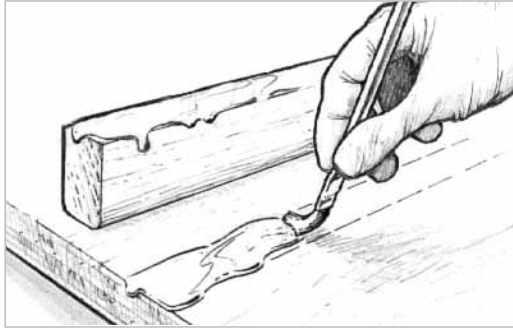

Figure 9-8 Wet out bonding surfaces with unthickened epoxy for maximum penetration and greater adhesion.
1. Wet-out bonding surfaces—Apply a straight resin/hardener mixture (without fillers) to the surfaces to be joined (*Figure 9-8*). Wet out small or tight areas with a disposable brush. Wet out larger areas with a foam roller or by spreading the resin/hardener mixture evenly over the surface with a plastic spreader. You may proceed with step two immediately or any time before the wet-out coat becomes completely tack free.